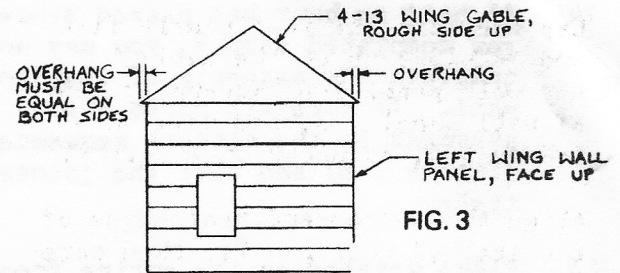

FIG. 3
9. Lay the wing gables (part no. 4-13) in position as shown in figure 3, rough side facing up. Be sure the eaves overhang equally. Allow the glue to set before proceeding with step 10.